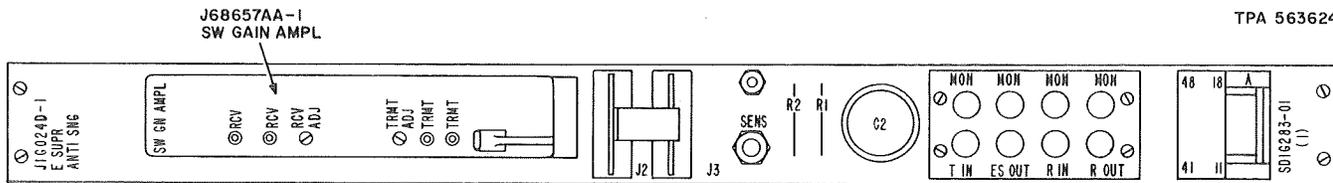

Fig. 1—J1G024D-1 Echo Suppression and Anti-Sing Unit
**2.01** One J1G024D-1 Echo Suppression and Anti-sing unit (Fig. 1) consists of assembly, equipment, and surface wiring occupying space of one 2 by 23-inch mounting plate.